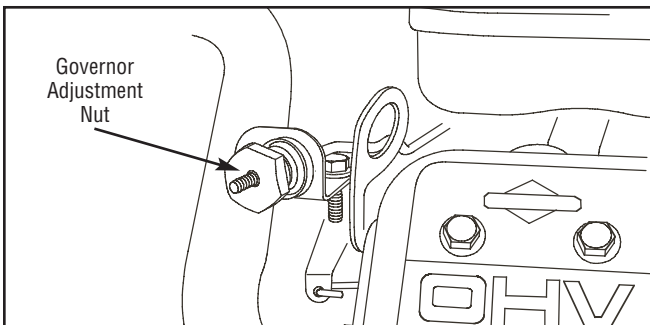

Figure 15 — Governor Adjustment Nut
- 8A. **For a 12kW generator**, normal no load frequency is 62.0 to 62.5 Hz. If adjustment is needed at no load, slowly rotate the governor adjustment nut (Figure 15) clockwise and/or counterclockwise until frequency is 62.0 to 62.5 Hz.